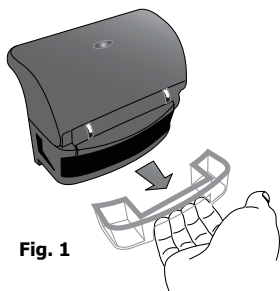

Fig. 1
1. Remove the water collector from below the lid hinge by pulling outwards **[Fig. 1]**. Discard the water collected after each use.